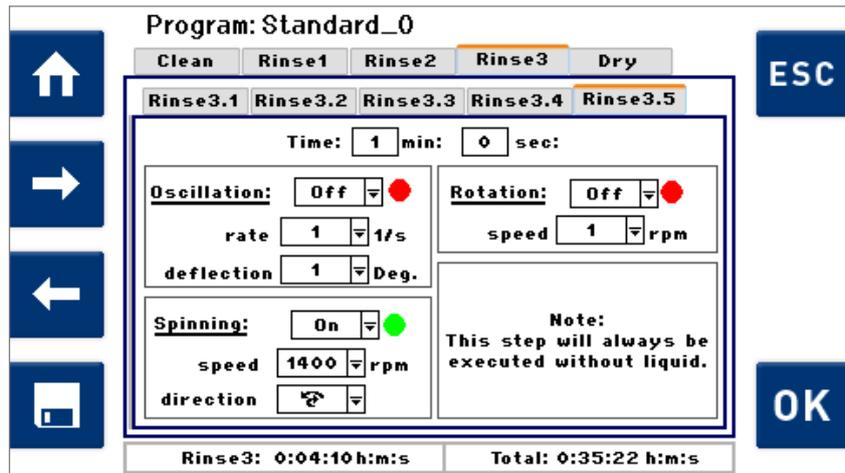
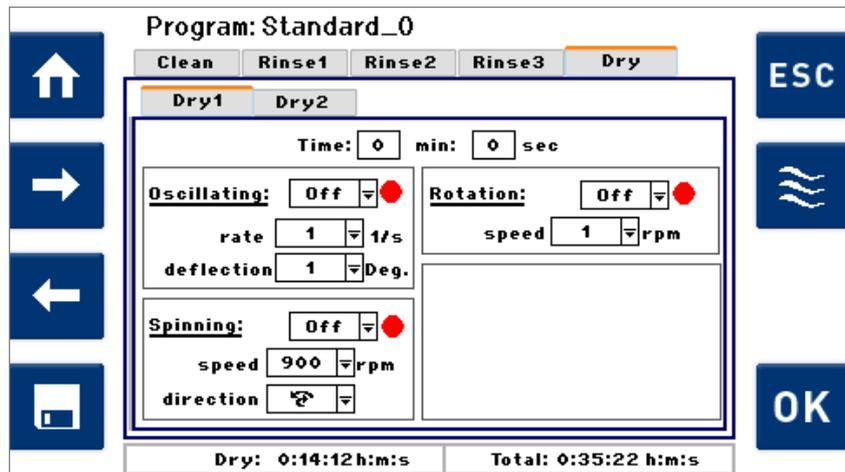

Fig.16.4 Screenshot of the options for *Rinse3.5* (analogous display for *Rinsex.5*, x=1, 2, 3).
Fig.16.5 Screenshot of the options for *Dry1*.
The then still to be evaporated (using vacuum and cleaning chamber wall heater) amount of the last rinsing medium on the parts and rotating basket surfaces is then determined by the duration and effectiveness of the preceding spinning sequences in *Rinsex.5* (*Fig. 16.4*) and *Dry1* (*Fig. 16.5*).
2. an as high as possible rotation speed (up to 1400 rpm) and a spinning duration with direction change where liquid is still spun off (usually a total of 40 = 2x 20 seconds) must be programmed in *Dry1* (*Fig. 16.4*).